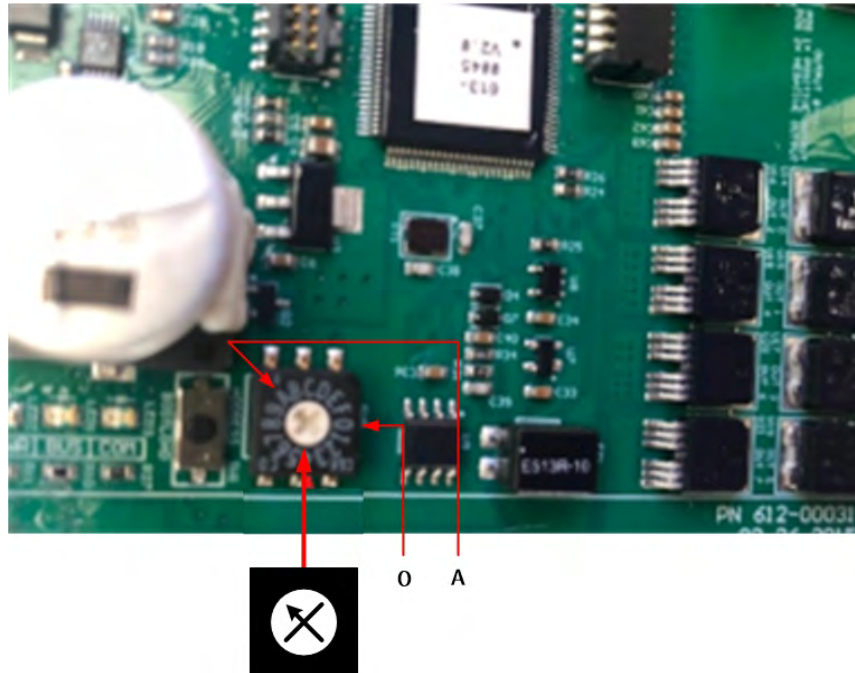

Figure 117. MIV-A Module Address Switch
C. Set dial to required address as follows. See Figure 117.
1. If Master: using a 1/16-in straight blade screwdriver, turn center of address switch until arrow points to position A. (Switch is shown in position A on Figure 117.)